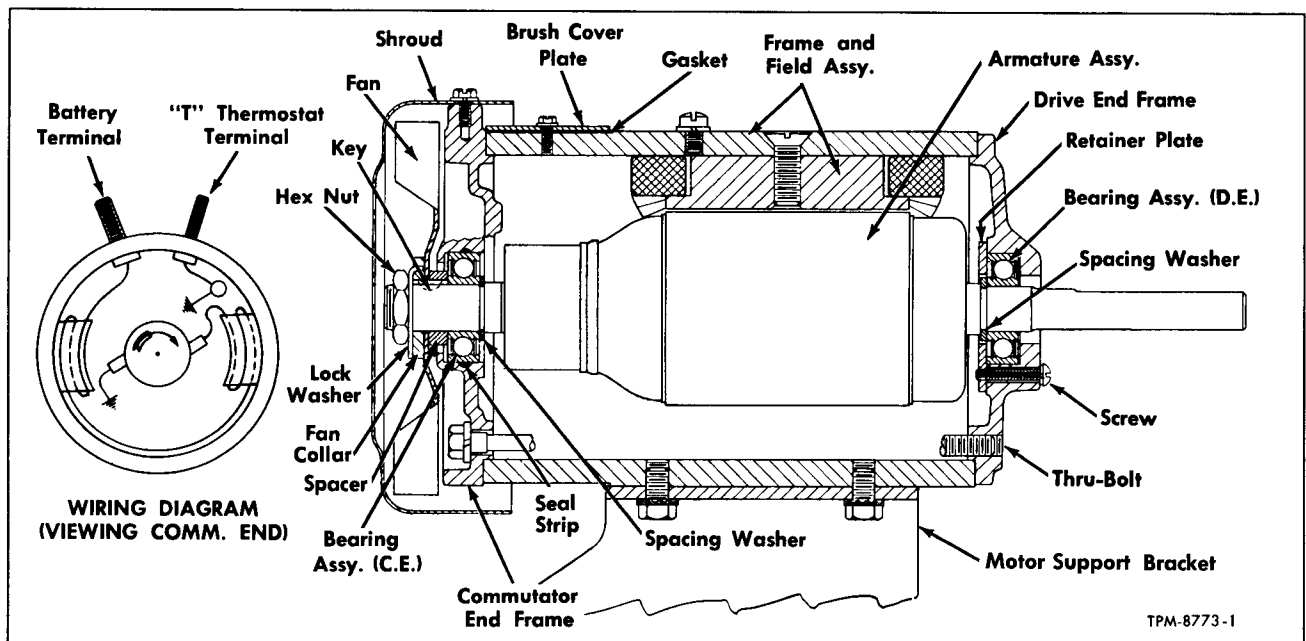

Figure 23—Underfloor Blower Motor
NOTE: Figure 23 shows sectional view of motor assembly.
5. At commutator end of motor, install ventilating fan to motor shaft. Referring to figure 23, install spacer, drive key, fan, fan collar lock washer and hex nut. Tighten nut firmly.